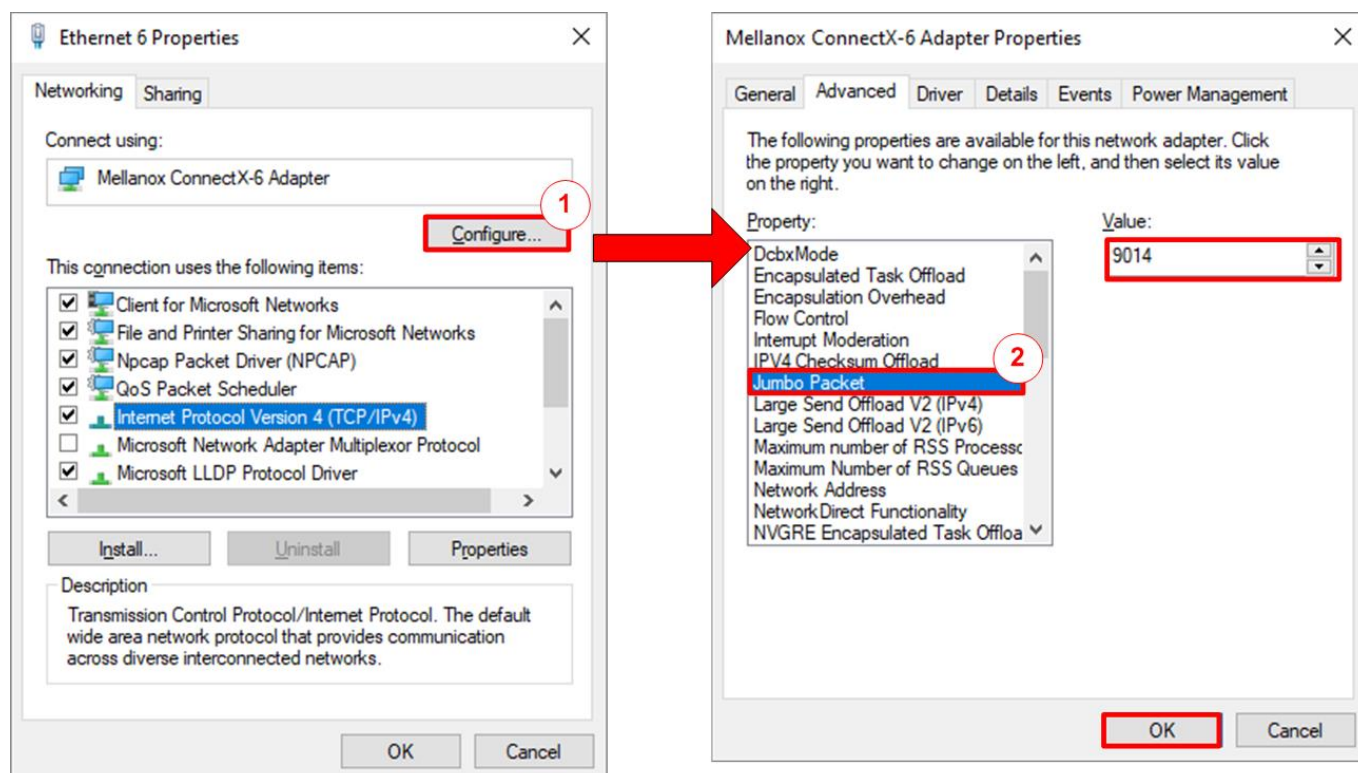

Figure 2-2 Set frame size = Jumbo frame
- 1) On Local Area Connection Properties window, click “Configure” as shown in Figure 2-2.
- 2) On Advanced Tab, select “Jumbo Packet”. Set Value to “9014 Bytes” for Jumbo Frame support or set value to “Disabled” for non-Jumbo Frame support, as shown in the right window of Figure 2-2.